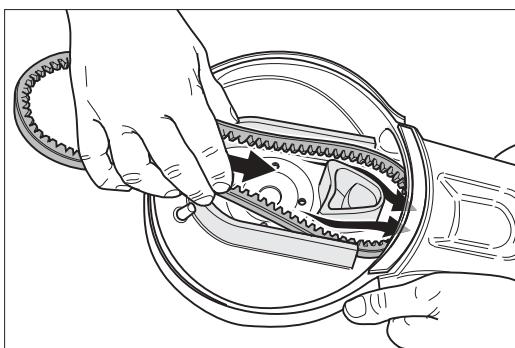

Fig. 69: Inserting a new V-belt and pulling it all the way back on the motor side.
- 11 Insert a new V-belt (Fig. 69). Pay attention to the correct installation position of the belt and pull the belt all the way back on the motor side.